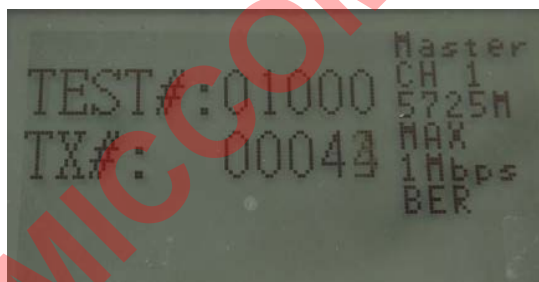

Fig 34
5. Delivering default 64 bytes payload (PN9) as shown in Fig 34.